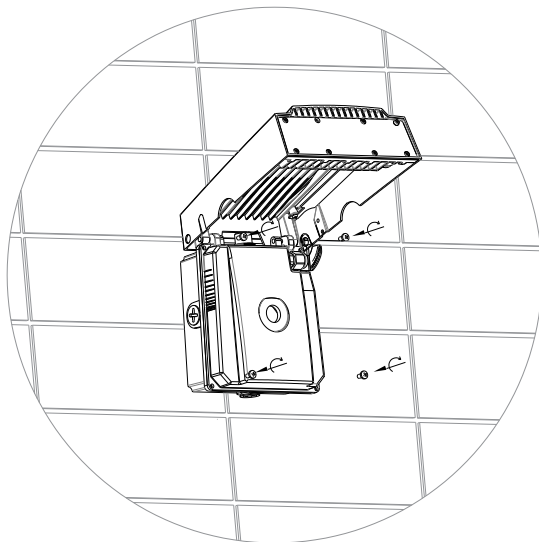

Fig. 3
4. Use appropriate holes. Screw and tighten the back cover with the housing. (Fig 3)